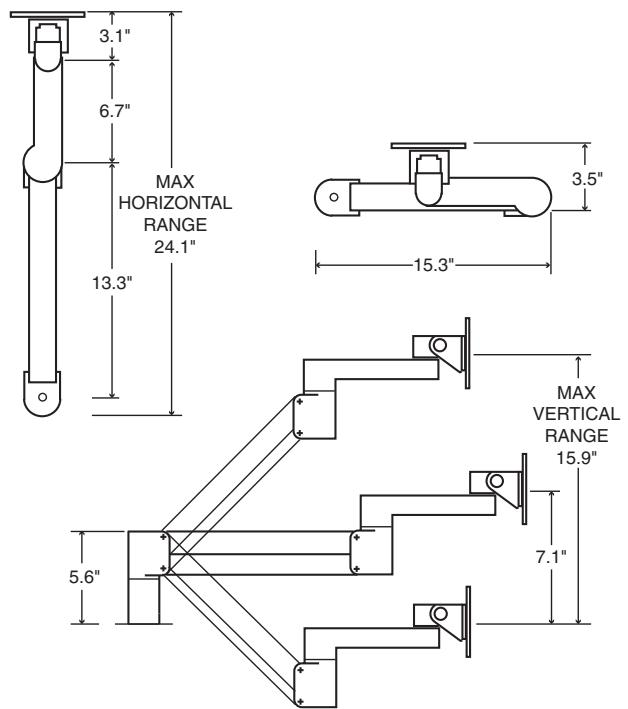

Fig. 5 — Display Arm Dimensions
3. The display height is adjustable within a 15.9 in. range. Arm dimensions are shown in Fig. 5.